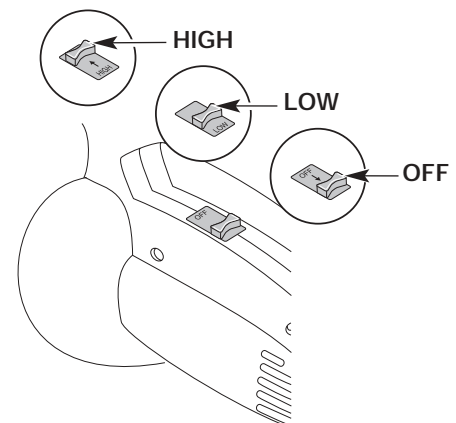
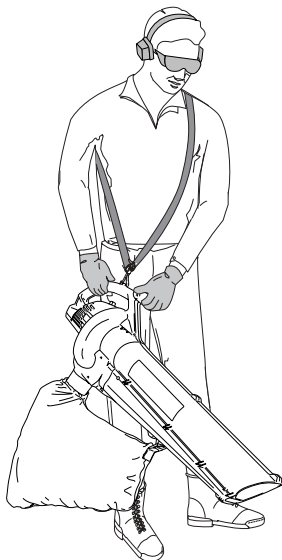

Fig. 11
Fig. 12
This unit is equipped with a three-way (OFF/ LOW/ HIGH) switch (Fig. 11):
Once the unit is plugged in, stand in the operating position (Fig. 12). Slide the power/speed switch to LOW or HIGH to start the unit. To stop the unit, slide the switch to OFF (Fig. 11).
Before operating the unit, stand in the operating position. (Fig. 12). Check for the following:
1. Slide the Power/Speed switch down in the **OFF** position until the unit comes to a complete stop (Fig. 11).